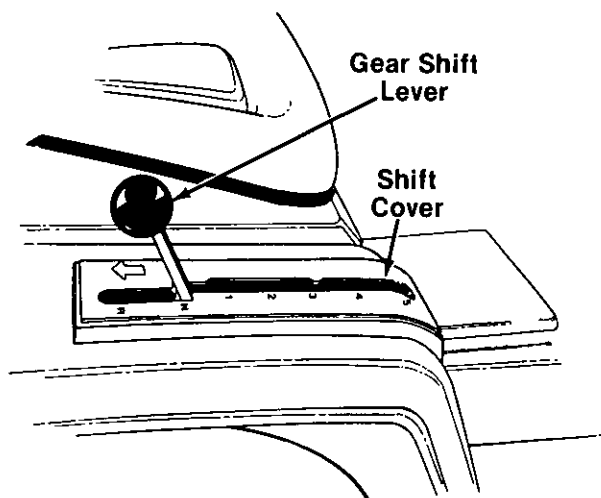

FIGURE 10.
2. Start the tractor in motion by depressing the clutch pedal and moving the gear shift lever into reverse or one of the five forward speeds. Slowly release the clutch pedal, and unit will move in direction indicated on the shift cover. See figure 10.